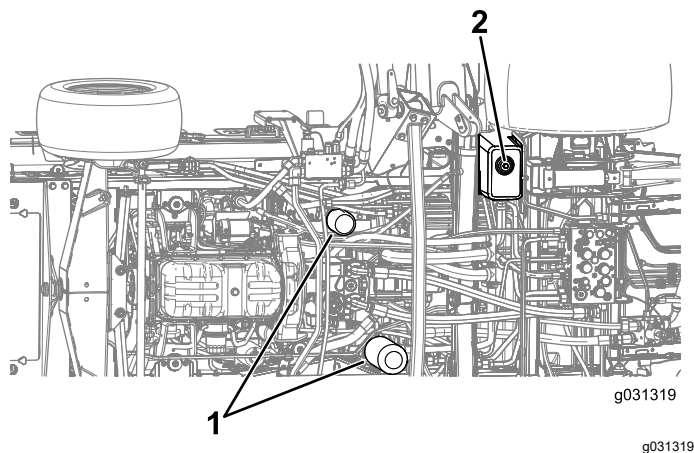

Figure 101
4. Remove the drain plug from the bottom of the tank and let the hydraulic fluid flow into the pan (Figure 101).
3. Place a drain pan under the filter and remove the filter (Figure 101).